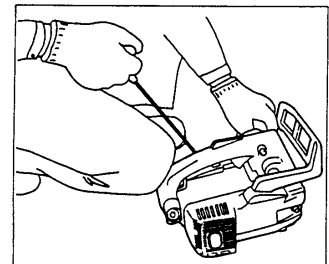

Fig. 2-4
4. Pull recoil starter briskly, taking care to keep the handle in your grasp and not allowing it to snap back. (Fig.2-4)